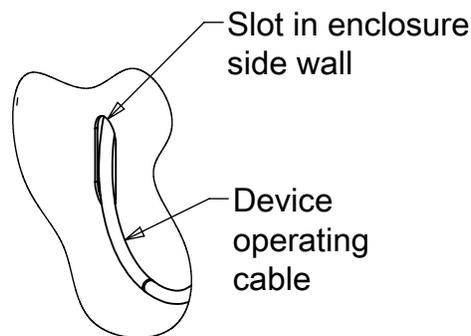

Figure 2
2. Based on the length of the operating cable, determine if the loop in the cable will be in the control enclosure or in the Sequestr enclosure. Mark, cut, and deburr a hole in the wall of the control enclosure for the cable to pass through that maintains the manufacturer's recommended bend radius without kinking or binding. A slot that will allow the cable to freely pass through at a reduced angle to the wall may be preferred. (See figure 2.) Note: If the cable cannot be disconnected from the switch or breaker operating mechanism it may be necessary to make a cutout large enough for the device operating mechanism to pass through.